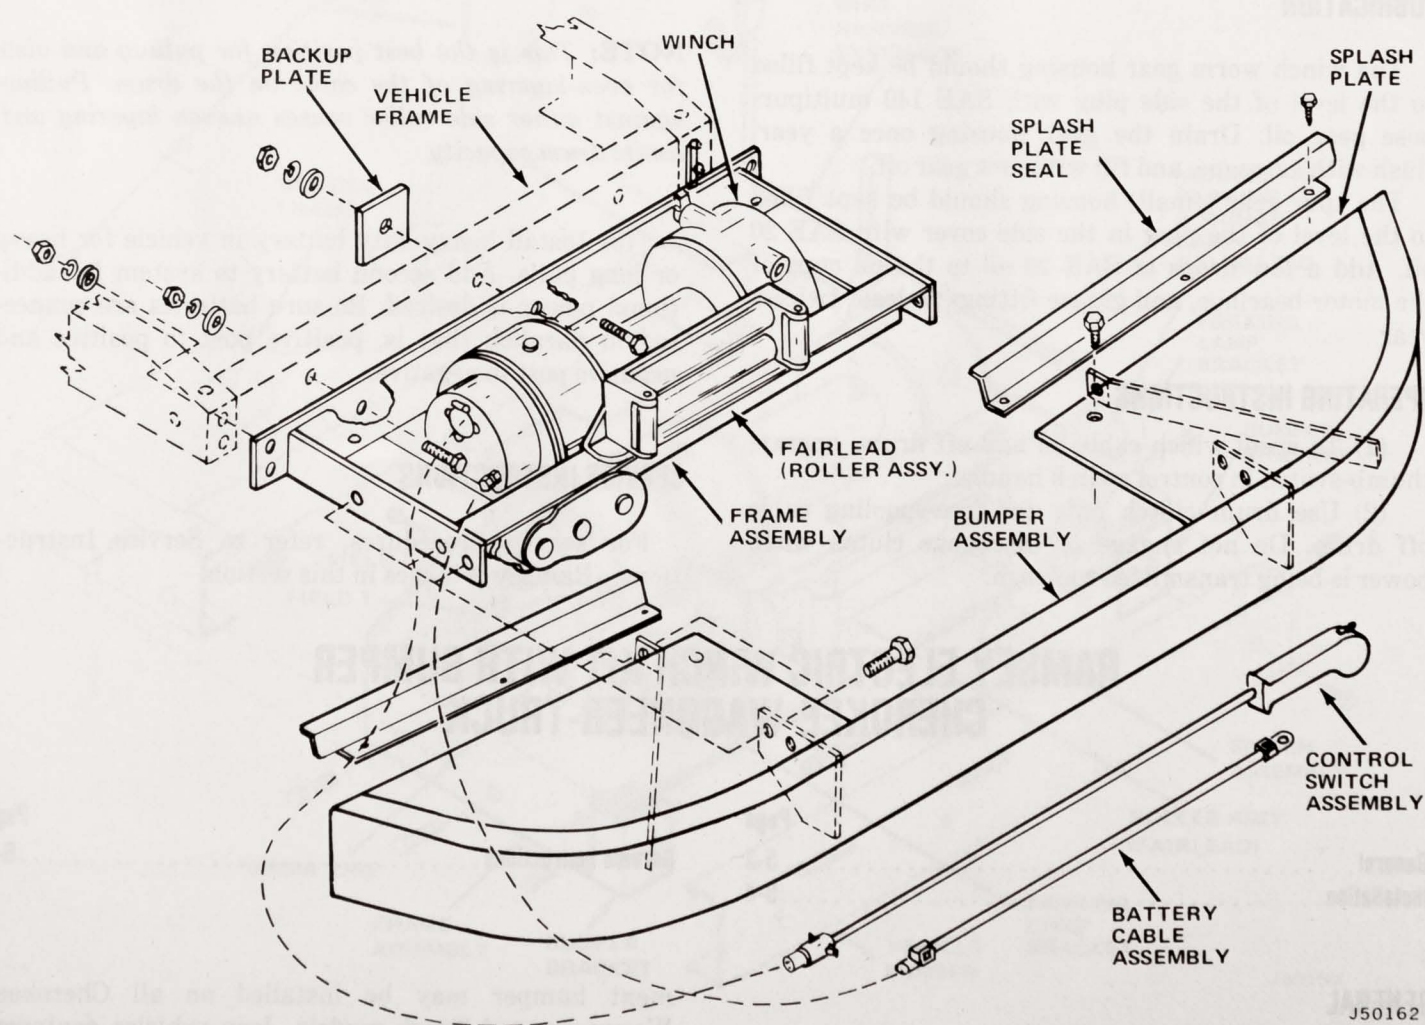

Fig. 5-6 Ramsey Electric Winch Kit Components—Cherokee-Wagoneer-Truck
Before beginning installation, check kit contents to be sure all necessary components are included (fig. 5-6).
- (1) Position RH and LH splash plate seals (fig. 5-6).
- (2) Secure seals to splash plate with 1/4-inch diameter by 3/4-inch long bolts, lockwashers, and nuts.